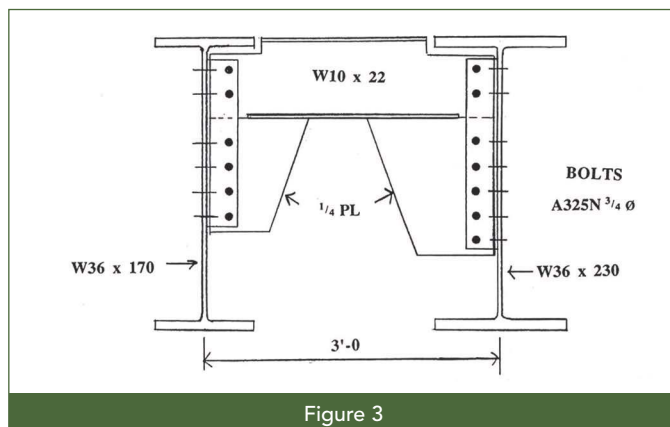

Figure 3
**Consider the use of cantilevered rafters and purlins to save weight on roof design (see Figure 3).**